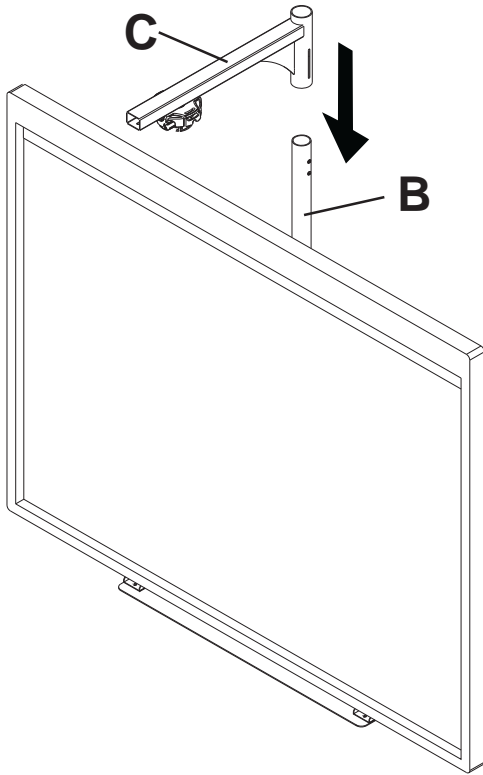

fig. 11.1
- 11** Place projector arm (C) onto projector tube (B) as shown in fig. 11.1. Align projector arm (C) so that the holes in projector tube (B) are in the middle of projector arm (C) slot. **NOTE:** This can be adjusted during final projector alignment if needed. Fasten projector arm (C) to projector tube (B) using two #10-32 x 3/8" serrated washer head socket pin screws (O) as shown in fig. 11.2 and detail 6.